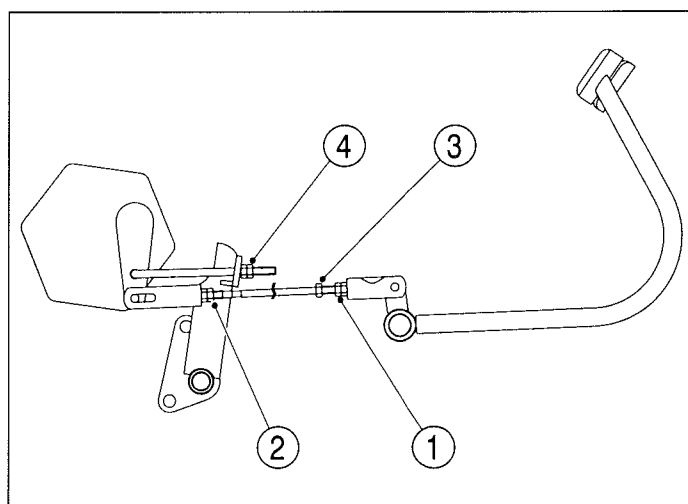

FIG. 102
FIG. 102 & 103: Loosen the lock nut (1) (right-hand thread) and lock nut (2) (left-hand thread). Adjust the rod using weld nut (3), so free-play is correct for respective brake pedal.